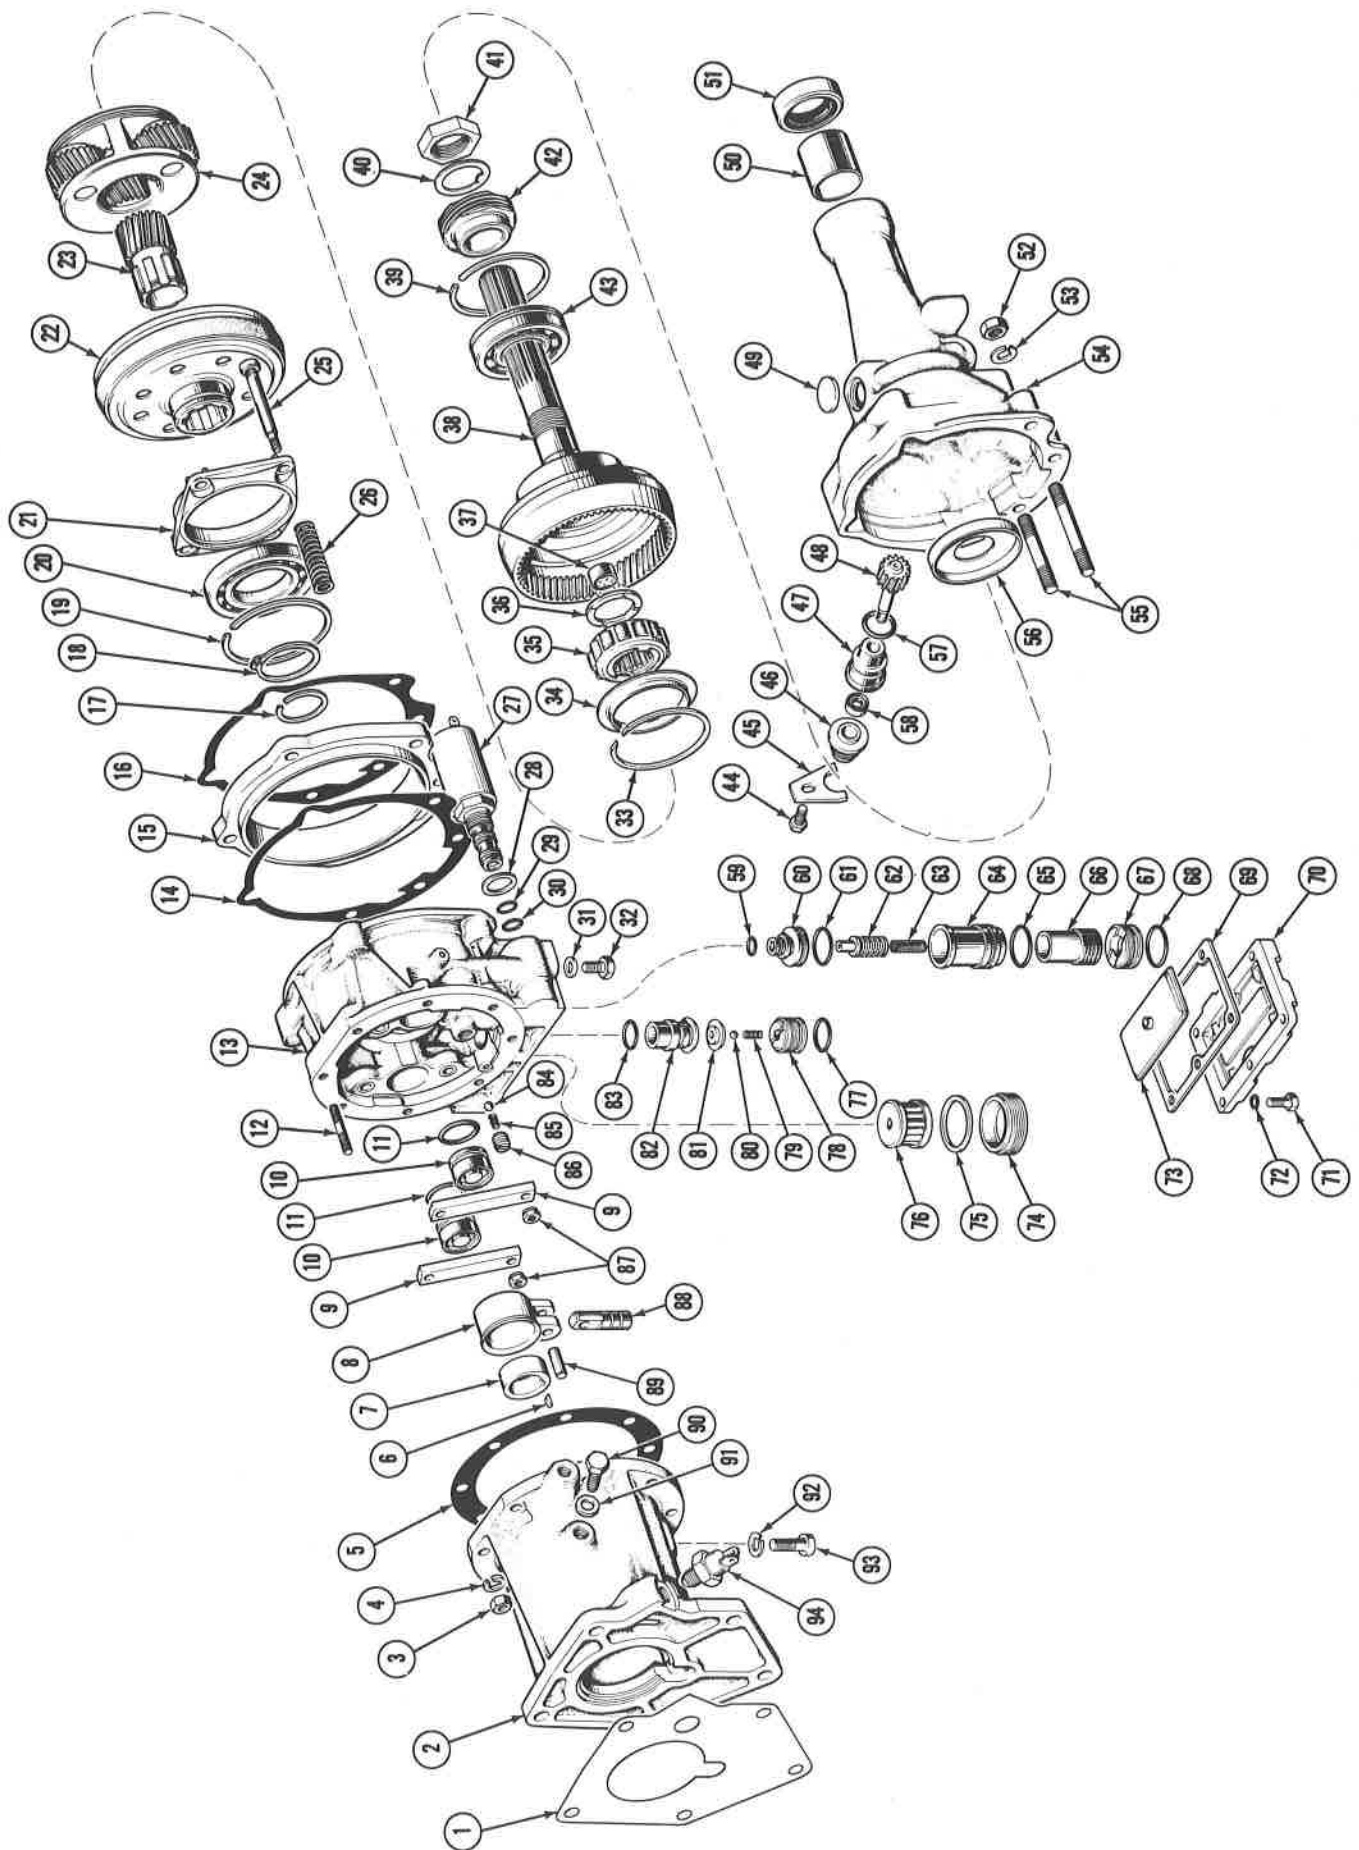

Fig. 6-42 Overdrive Assembly
(1) Remove solenoid valve with Wrench Tool J-25304. Do not attempt to remove solenoid by turning body with pliers or similar tool as solenoid could be damaged.
(2) Remove self-locking nuts that attach clutch piston apply bars to thrust bearing cover pins and discard nuts (fig. 6-42).
(3) Remove nuts, lockwashers, and copper gaskets from main case-to-rear case studs and separate main case assembly from rear case assembly.
(4) Remove loose clutch return springs from main case and remove clutch brake ring and gaskets from main case (fig. 6-42).
(5) Remove oil pan, oil pan gasket, oil pan filter and main case pressure plug from main case and discard oil pan gasket (fig. 6-42).